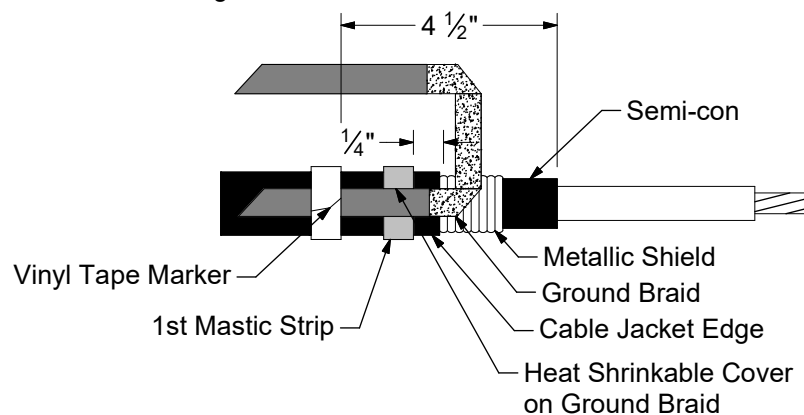

Figure 3A
- Position a pre-formed ground braid (Stock #17 54 306) with the "U" section over the metallic shield directly adjacent to the cable jacket cut edge. Position one tail of the ground braid over the cable jacket with the heat-shrinkable covering in contact with the mastic strip. Secure the tail to the cable jacket 4-1/2" from the edge of the semi-con using vinyl tape. NOTE: Position the vinyl tape with care since it also serves as a marker for positioning the terminator. See Figure 3A.